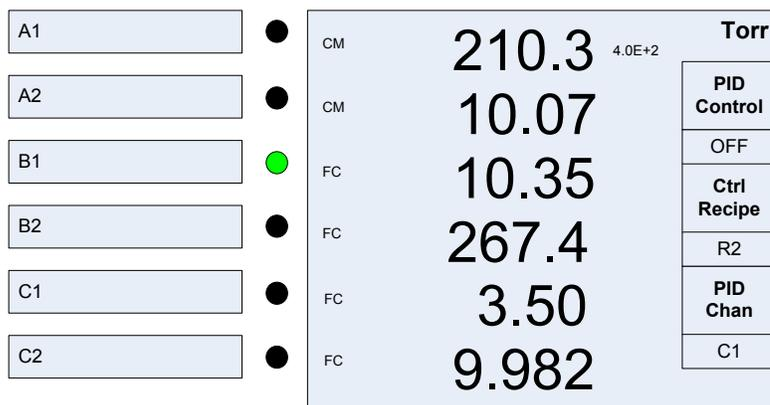

Figure 6-17 Display with the Dialog Box for Single MFC PID Control.
- Press  key until the single channel PID Control dialog box is displayed on the right side of the screen as shown in Figure 6-17.
- Select the appropriate control recipe for the PID control. Once a PID recipe is selected, the corresponding PID Ch (such as C1 shown in Figure 6-17) will be displayed. The flow rate of the MFC connected to this PID channel will be varied automatically to control the system pressure. At the same time, the pressure set point value is displayed on the front panel in line with the corresponding channel where the pressure gauge is connected (such as 4.0E+2 for A1 is shown in Figure 6-17). This assists in the identification of the pressure sensor used for control, and the comparison between the real pressure reading and corresponding set point value.
- Switch the PID Control parameter from ON to OFF as shown in Figure 6-17. Once the PID control is turned OFF, the flow rate for the MFC will be changed to the Preset set point as defined in the recipe (refer to Figure 6-14).